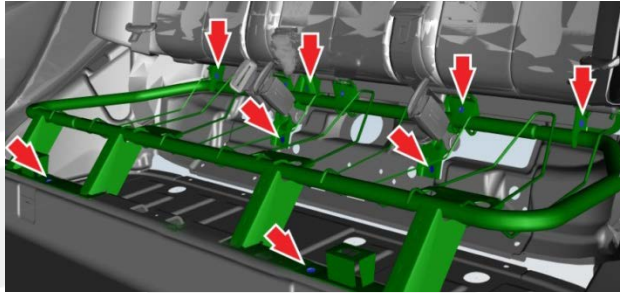

Figure 1
**TIP:** It is possible to remove the 8 bolts that secure the 2nd row seat frame (Figure 1) and temporarily secure the frame to the 2nd row seat backrest for access.